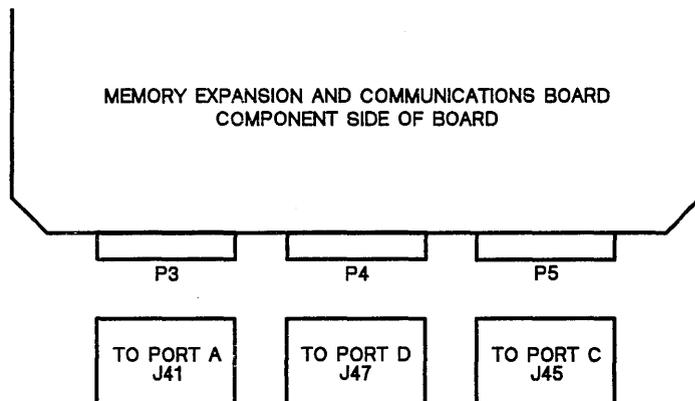

Figure 11-7. Communications Cable Connections
- 3) Connect J41, J45, and J47 (Figure 11-7).